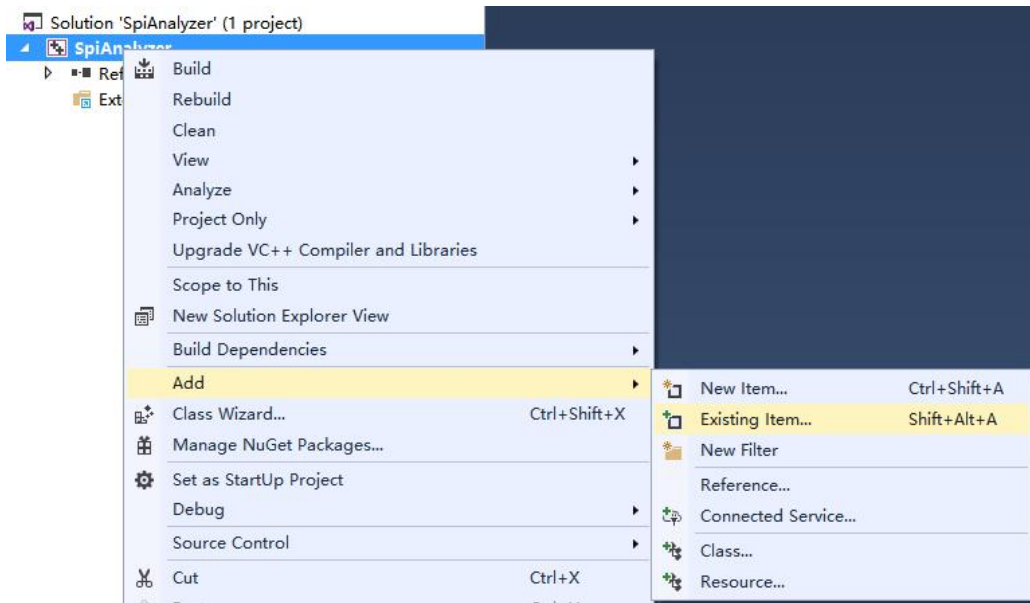

Fig.5
4. Right click on the project name, choose **Add -> Existing Item** as shown in Figure 5. Open *src* folder, select all .cpp and .h files you need to add, and add them.